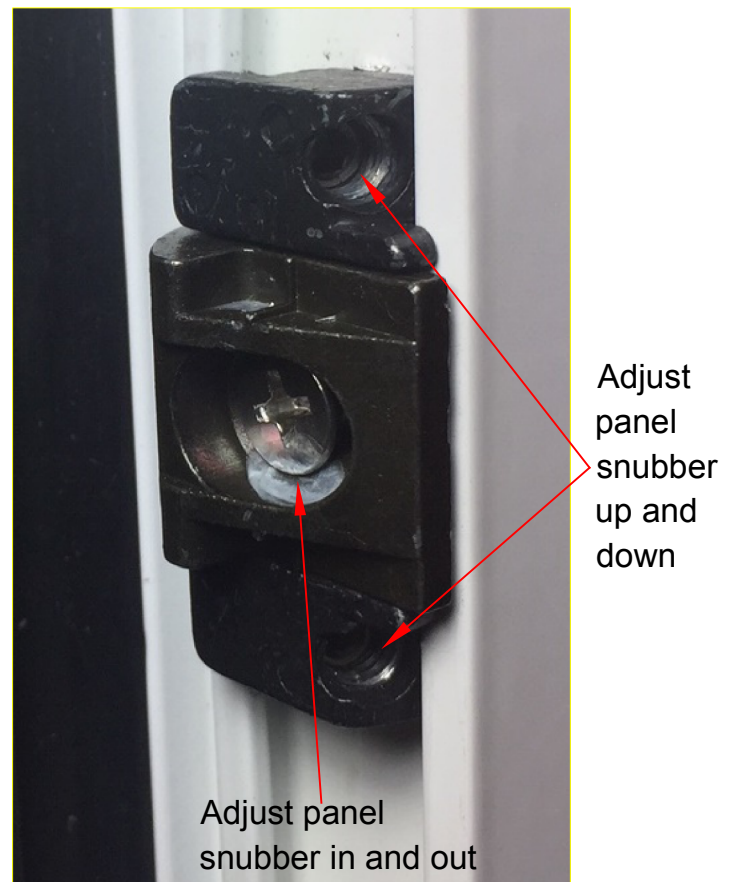

Figure 20
D. If the panel snubbers need adjusted up or down, loosen the snubber attachment screws (2.5mm hex screws) and slide as needed. Re-tighten the screws. (See figure 20).
E. If the panels still bounce open when attempting to close, the panel snubbers will need adjusted toward the exterior. In order to adjust the panel snubbers, loosen the snubber adjustment screw (Phillips) and adjust the snubber as needed. Re-tighten the screw. (See figure 20).